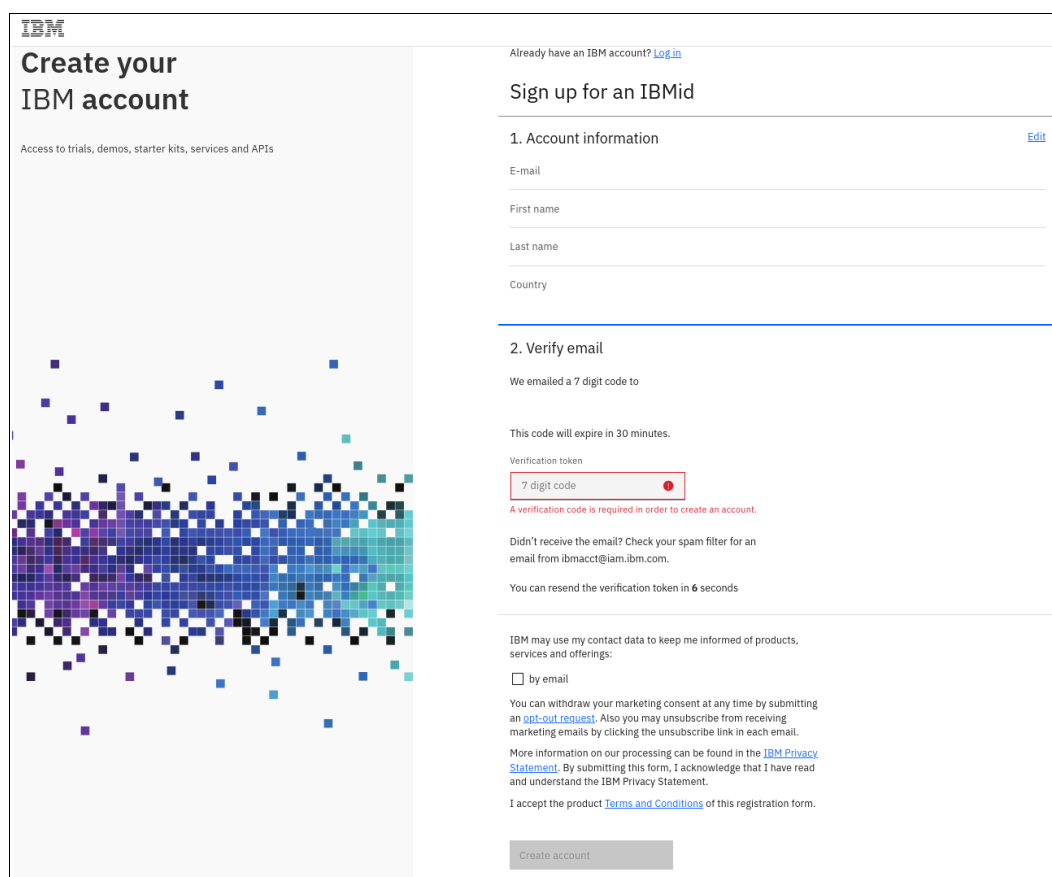

Figure 9-25 Creating an IBM account
3. If you want to create an IBMid, see Figure 9-25 for reference. Provide the following information and click **Next**: